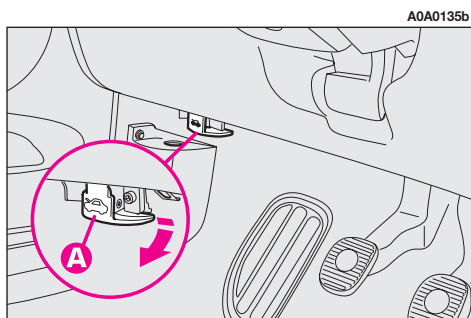

fig. 146
- pull the lever (**A-fig. 146**) until the bonnet clicks open.